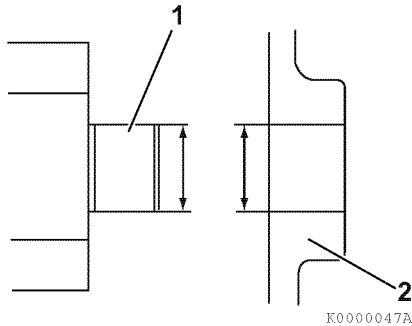

Figure 9-17
Determine the rotor shaft clearance. Measure the outside diameter of the rotor shaft (Figure 9-17, (1)) and the bore diameter in the gear case housing (Figure 9-17, (2)).